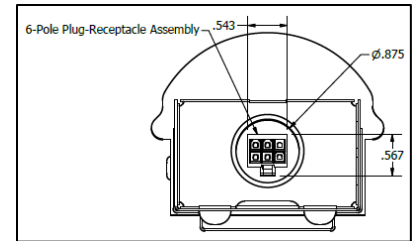

Figure 10
3. Connect the mating plug and receptacle to form a secure connection. Push the connected assembly into one of the body channels of the luminaries as shown in Figure 10.